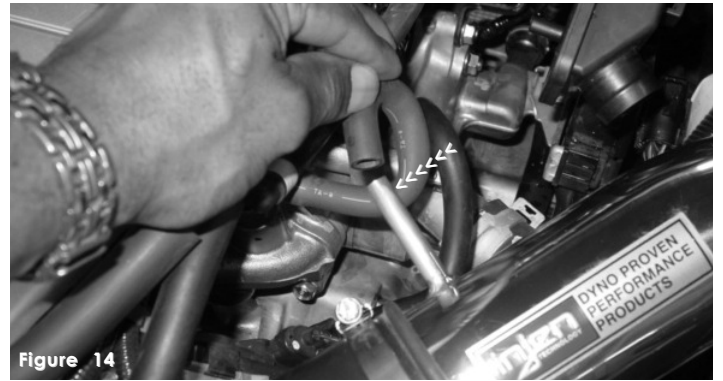

Figure 14
- 13- Take the 8mm stock hose and press it over the 3/8" port on the intake. (See fig. 14)